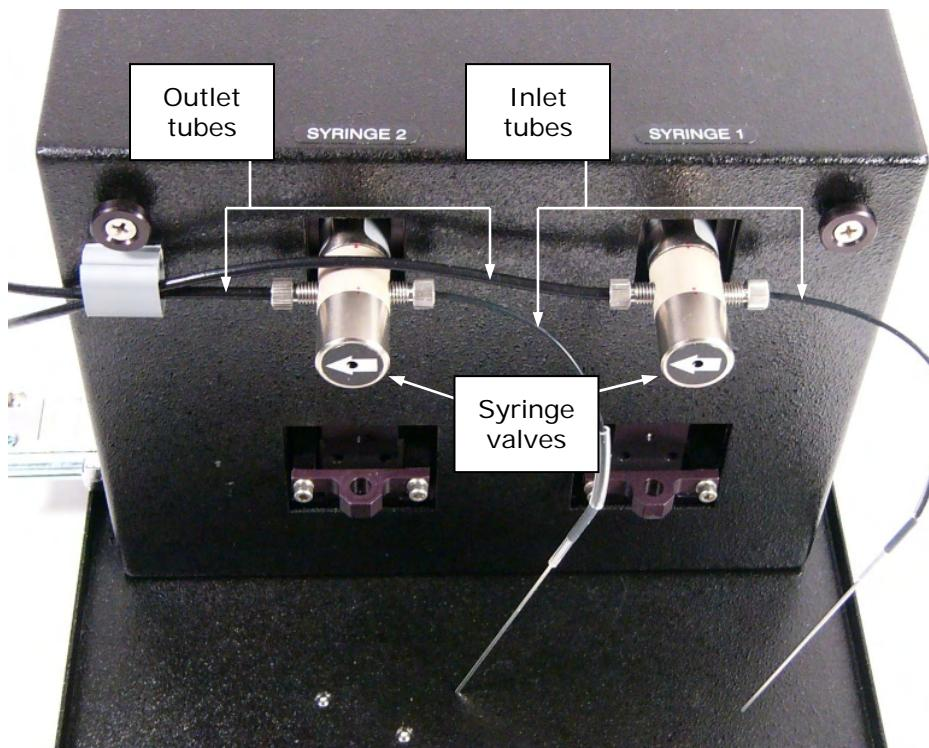

Figure 9: The dispense module's outlet and inlet tubes, and syringe valves
6. Identify the two syringe valves on the dispense module (see **Figure 9**). Each is labeled with a left-pointing arrow.